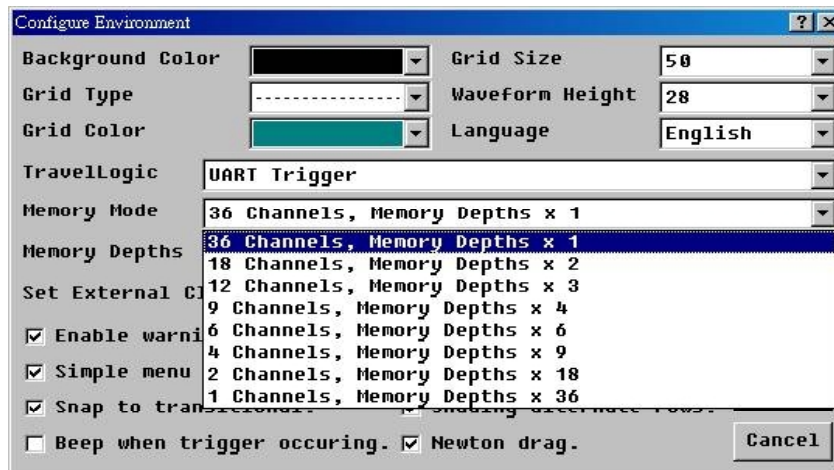

Figure 2
**Memory Mode** box is to choose the maximum memory depth per channel. When you select 36 channels as shown in Figure 2 below, the maximum memory depth per channel is total memory size divided by 36. For instance, if it is the TL2236 and 36 channels chosen, then 72M bits (total memory) / 36 = 2M bits (maximum) per channel, or 2 channels chosen, then 72M bits / 2 = 36 M bits (maximum) per channel.